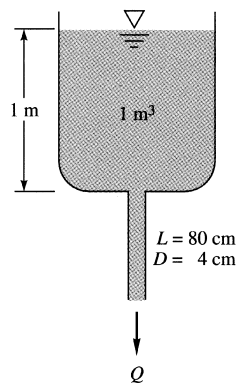

Fig. P6.63
6.63 A tank contains 1 m^3 of water at 20°C and has a drawn-capillary outlet tube at the bottom, as in Fig. P6.63. Find the outlet volume flux Q in m^3/h at this instant.
Solution: Recall that $\rho = 998 \text{ kg/m}^3$, $\mu = 0.001 \text{ kg/m}\cdot\text{s}$, and $\varepsilon/d \approx 0.0000375$. Let Z be the depth of water in the tank ($Z = 1 \text{ m}$ in Fig. P6.63). When $Z = 0$, find the flow rate: